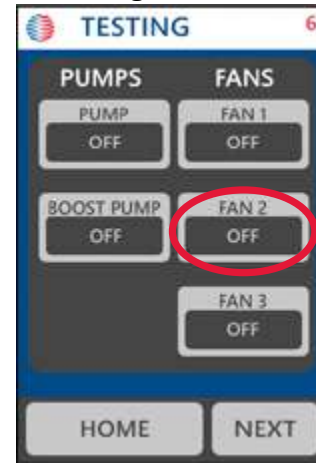

Figure 12
3. Under the "Fans" testing section, locate the fan 2 output (Figure 12).